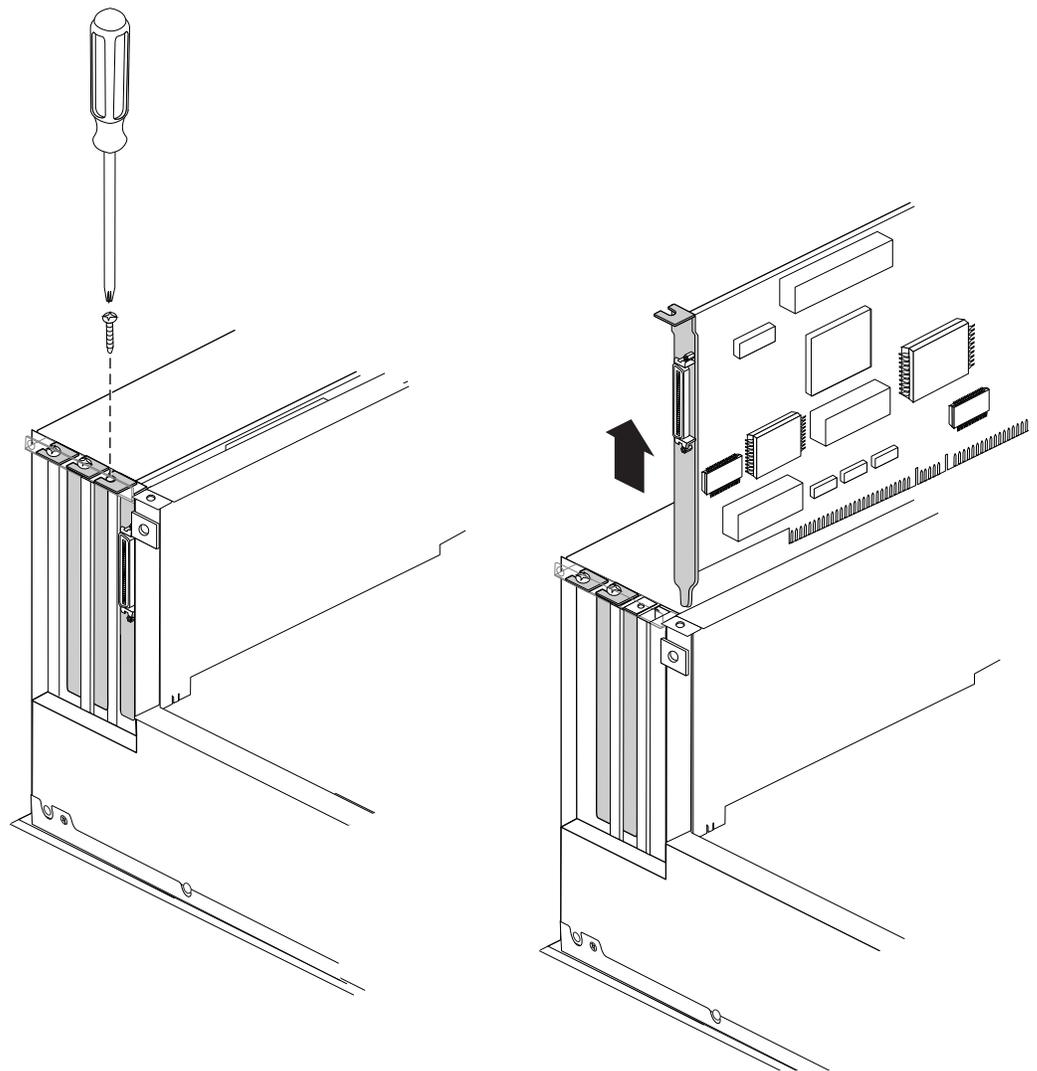

Figure 6-6 Removing a PCI Option Board Screw and Board
- Using a #2 Phillips screwdriver, remove the screw that secures the PCI option board to the Origin200 chassis, as shown in Figure 6-6.
- Grasp the PCI option board at the front and rear of the board and pull it straight up and out of the system, as shown in Figure 6-6.